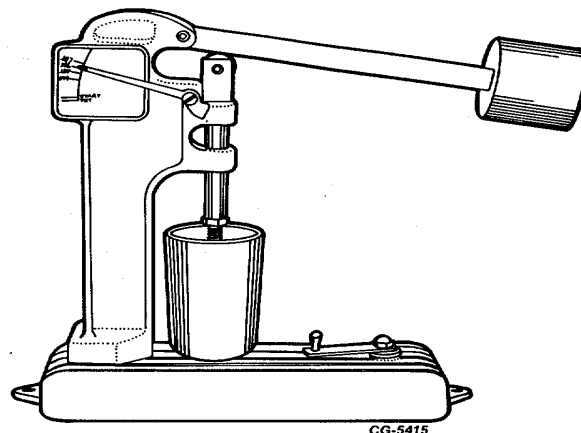

Fig. 122. SE-1893 Tester Used for Checking Leakdown Rate of Tappet
- I. The SE-1893 leakdown tester, Figure 122, may be used for checking the leakdown rate if available. Instructions which accompany the tester should be followed.